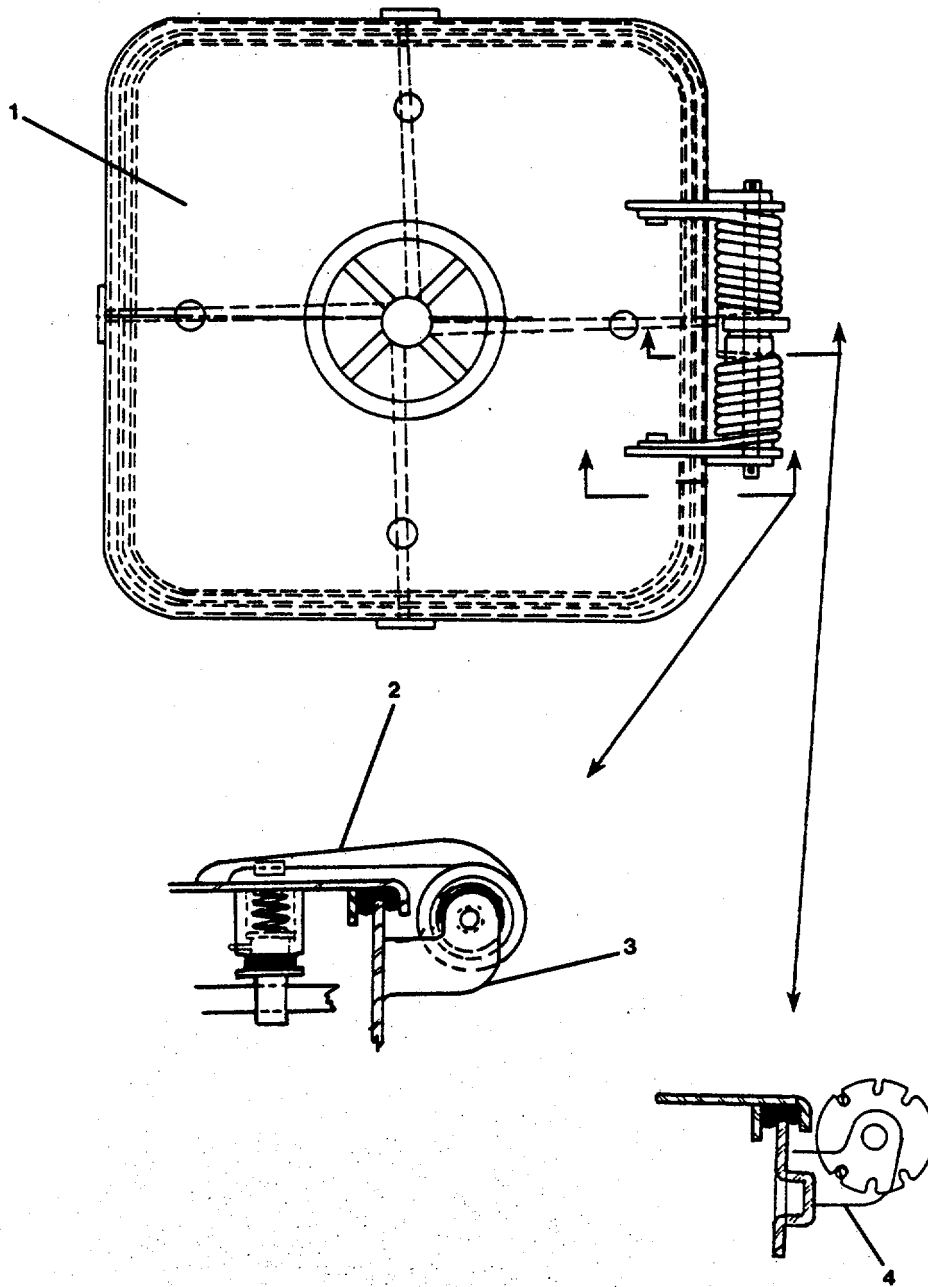

FIGURE 3-174. Repair Watertight Hatch. Quick Action.
- a. Install frame angle (6) on bulkhead.
- b. Install hinge pad (7) on frame angle (6) and hinge blade (8) on door.
- c. Install grab handle (4) on door.
- d. Install hasp (3) and eye (2) on door.
**3-190. Repair Watertight Hatch, Quick Action. (Figure 3-174)**